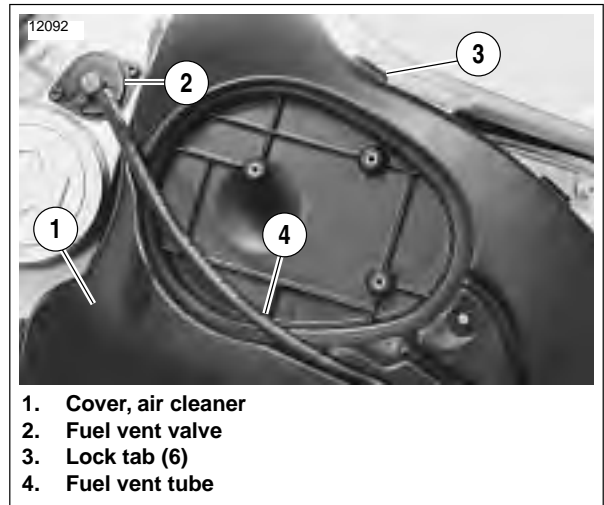
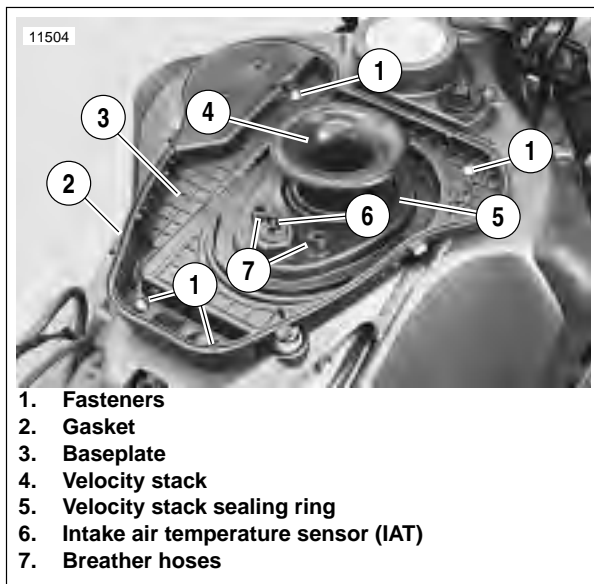

Figure 4-113. Air Cleaner Cover (XB9R)
Figure 4-115. Baseplate
2. See Figure 4-113. Remove fuel vent tube (4) from fuel vapor valve (2) and groove on top of air cleaner cover (1).
4. Unlatch six lock tabs (3) and remove air cleaner cover from baseplate.
6. See Figure 4-115. Remove air cleaner baseplate.
- a. Remove four fasteners (1) and raise baseplate (4).
- d. Remove IAT sensor (2) from grommet on bottom of baseplate.
- e. Lift baseplate off of frame, carefully disengaging baseplate from rubber sealing ring (8) on velocity stack (7).
1. See Figure 4-115. Hold baseplate above mounting position.